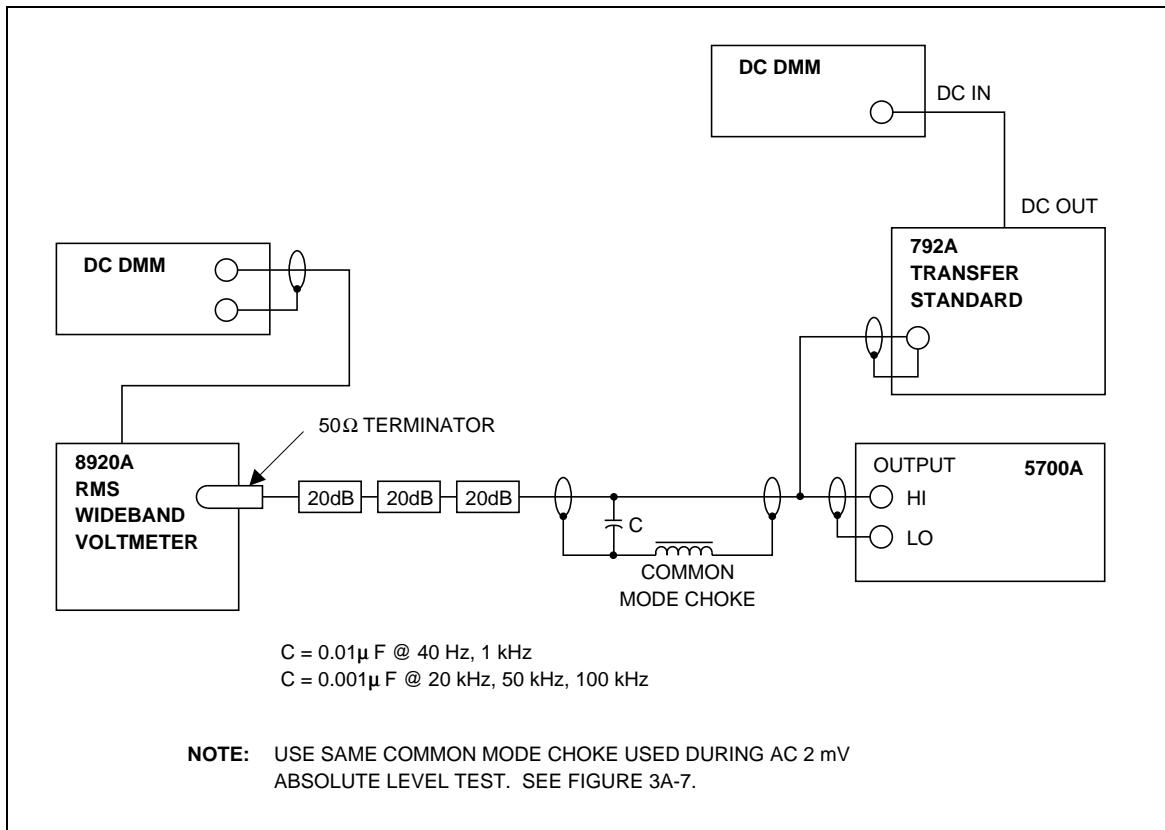

Figure 3A-18. AC 2 mV Flatness Test Setup
Common-Mode Choke	(Construction details in Figure 3A-8.)
1. Set up the equipment as shown in Figure 3A-18. Use three 20 dB attenuators in series and a 0.01 µF capacitor across the input of the rms wideband voltmeter.